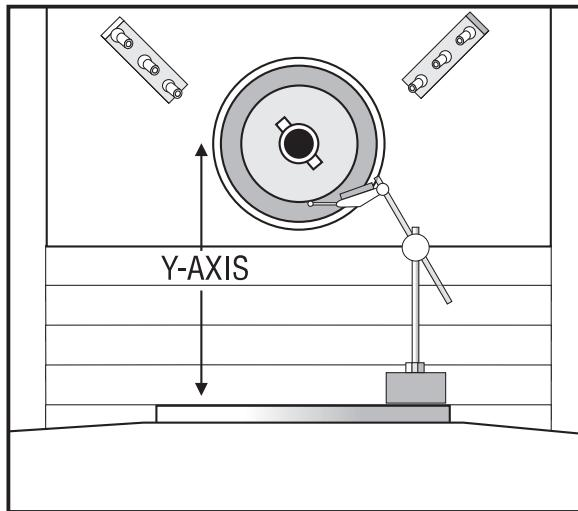

Figure 3-2. Dial indicator in position to check Y-axis.
1. Set up a dial indicator and base on the mill table as shown in Fig. 3-2.
An alternate method for checking backlash is to place the dial indicator as shown in Fig. 3-2 and manually push up and down on the spindle head while listening for a 'clunk'. The dial indicator should return to zero after releasing the spindle head.